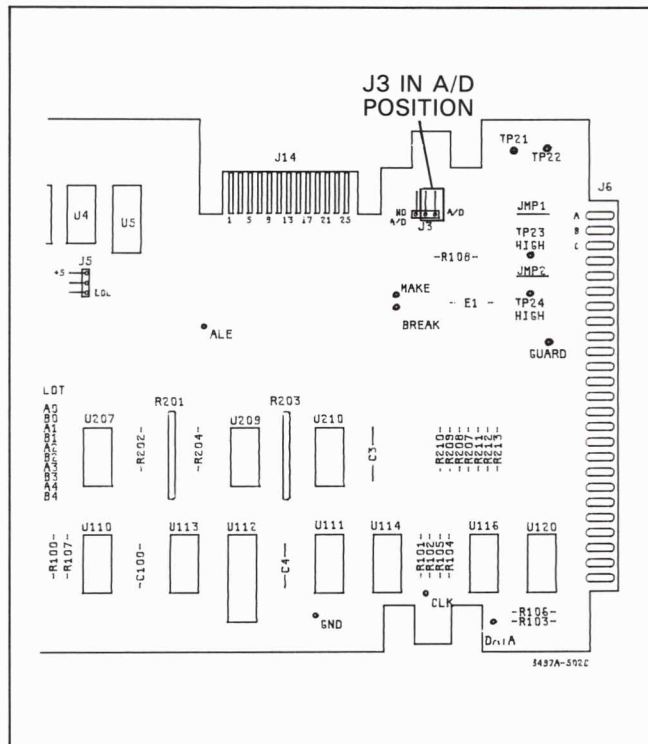

Figure 2-9. A/D Jumper Configuration
g. Locate the A/D Jumper (blue jumper plug, J3) on the inguard controller board shown in Figure 2-9. Place the jumper in the "A/D" position, as shown in the figure. Continue with the next paragraph to reinstall the Inguard Controller Board.